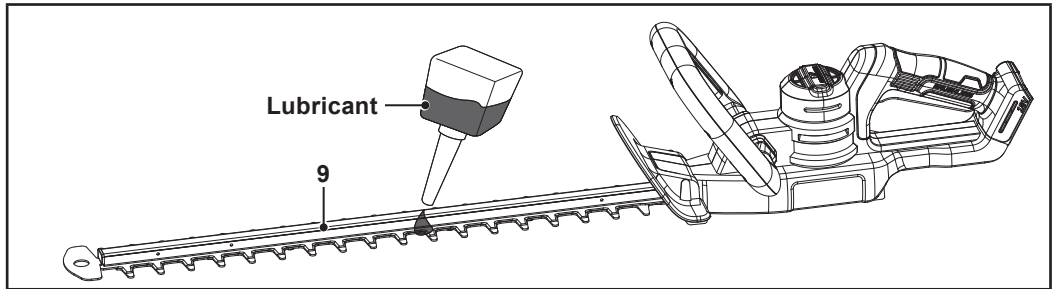

Fig. 8
- The internal surfaces of the blade (9) needs regular lubrication during operation (Fig. 8).
- The internal and external surfaces of the blade (9) need lubrication before storage (Fig. 8).